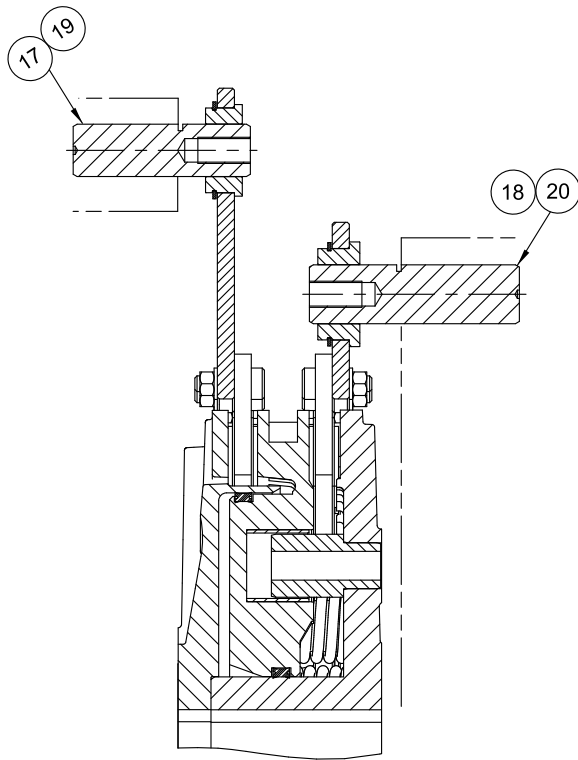
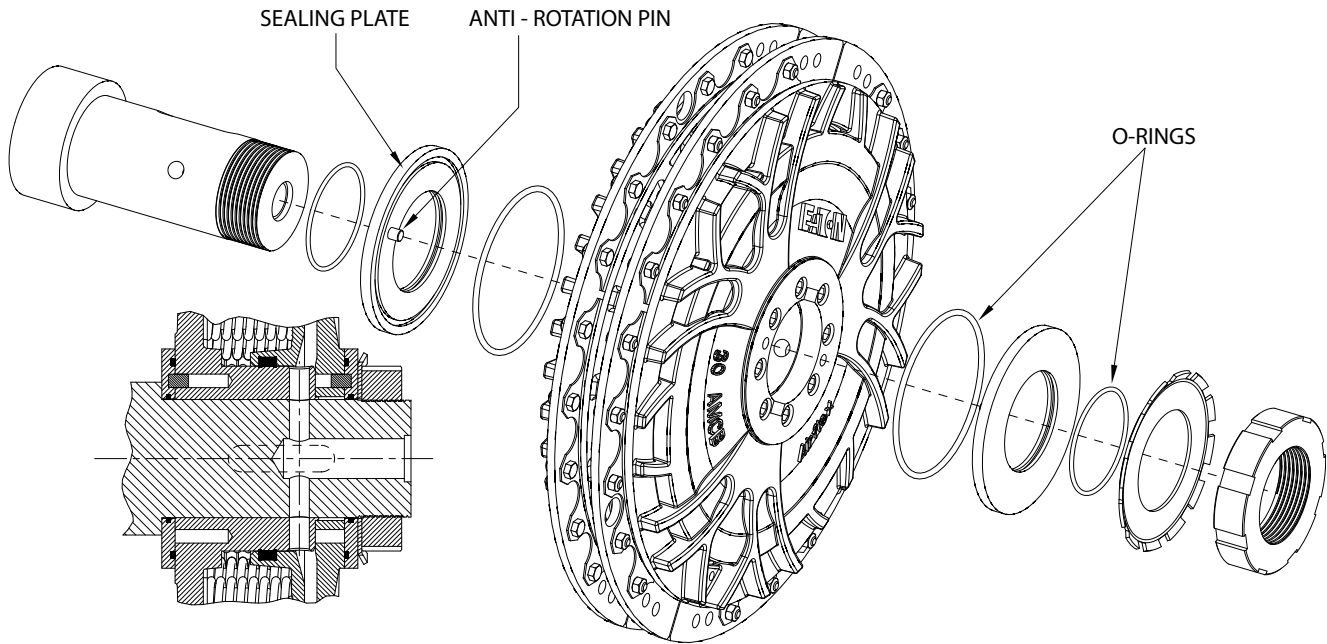

Figure 2 : Mounting Arrangement
Figure 4 : Sealing Method
2.1.4 Sealing plates that provide a method to contain the pressurized air between the machine shaft and AMCB AccuStop™ assembly should be fabricated by the customer. These are not supplied by Airflex. The bore of the plate will be custom sized according to the shaft size. The plates should also be secured to the hub or cylinder of the AMCB AccuStop™ to prevent them from rotating freely on the shaft. See Figure 4 that shows an example of this sealing method. For best results, the o-rings should be molded as a continuous ring, and not spliced or joined from cord stock.
Note : The following installation procedures are for typical arrangements as shown in **Figures 2 and 3**. The fit of the hub to the shaft should be a transition fit. Air passages are sealed by the use of customer supplied sealing plates and o-rings, as shown in **Figure 4**. Your specific arrangement might be different from what is being described, requiring a different sequence of assembly. Contact Airflex if you require assistance with installation procedures that will satisfy your specific arrangement.
2.2.1.3 Noting the orientation of the slot in the side of the reaction pin and the location of the puller hole in the end of the reaction pin, insert the reaction pin into the fitted hole. The puller hole should be positioned outwards to allow for removal of the reaction pin during future maintenance. The slot on the side of the reaction pin should be positioned 180 degrees from the centerline of the machine shaft. Install the reaction pin to the proper depth, aligning the slot to allow for assembly of the retaining plate (30). See **Figures 2, 3 and 5**.
- 2.2.3 Using an appropriate o-ring lubricant such as Parker O-Lube®, lubricate and install the o-rings into the grooves of the seal ring. Noting the orientation of the o-ring grooves, carefully slide the first sealing plate onto the shaft until it stops against the shoulder on the shaft. These plates and O-rings are customer supplied. See **Figure 4**.
- 2.2.4 Rotate the sealing plate to position the anti-rotation pin 90 degrees from the keyway location so that it will engage into the corresponding hole in the AMCB AccuStop™ hub (3) when assembled. See **Figure 4**.
- 2.2.8 Using an appropriate o-ring lubricant such as Parker O-Lube®, lubricate and install the o-rings into the grooves of the remaining seal ring. These components are customer supplied. Assemble the seal ring onto the shaft and against the face of the cylinder (1). Rotate the seal plate to align the anti-rotation pin so that engages into the hole on the cylinder face. See **Figure 4**.